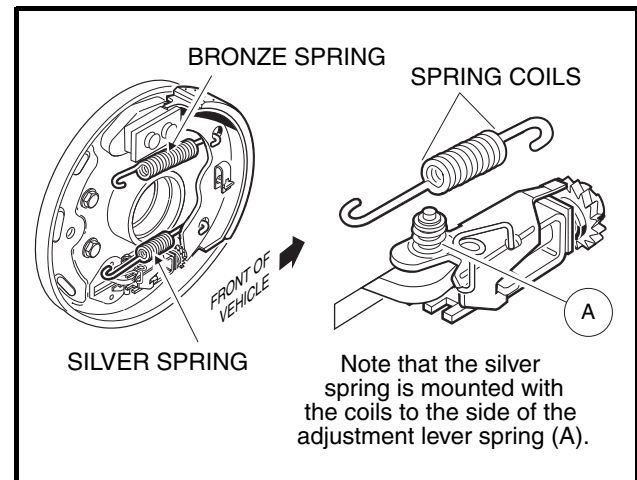

**Figure 6-12 Trailing Shoe**
**NOTE:** The trailing shoe has 17T stamped into the tip of the shoe flange (**Figure 6-12, Page 6-6**). The leading shoe is stamped 17L. When installing the shoes, the stampings on both shoes should be oriented to the top of the brake assembly. When installing the shoes on the passenger side of the vehicle, the side of the trailing shoe flange marked 17T should be facing out and be visible. On the driver side, the 17L on the leading shoe should be facing out and be visible.